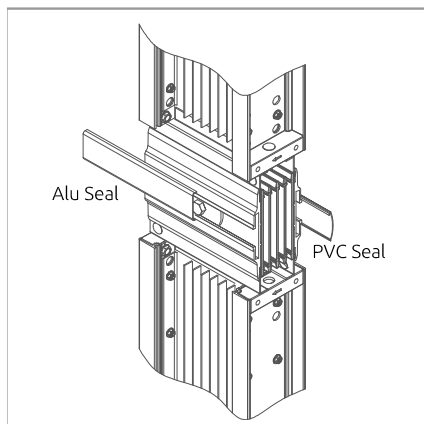

Figure 11.1
1. Joint two feeder together, and install alu seal and pvc seal as shown in Figure 11.1.